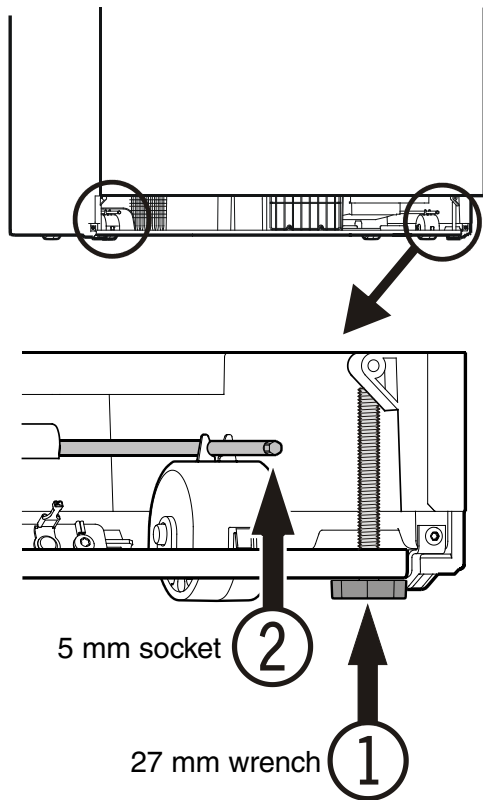

Figure 14
Leveling the Refrigerator - Figure 14
To prevent the appliance from tipping forward the leveling feet ① (Figure 14) must have contact with the floor.